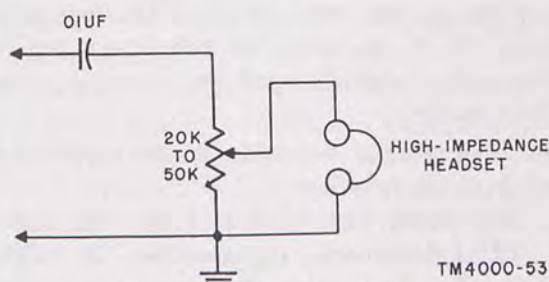

Figure 46. Audio signal tracer.
b. Feed a modulated IF signal into the detector at point 4. Connect the ground terminal of an audio signal tracer (fig. 46) to the chassis.